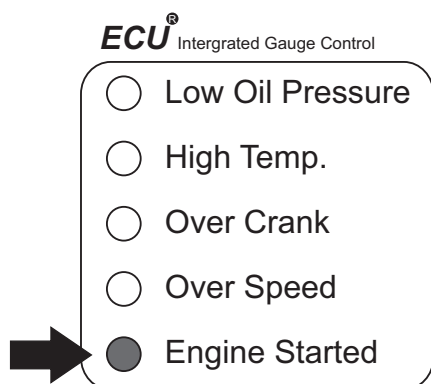

Figure 45. ECU Controller (Engine Started LED)
- Verify that the Engine Started status LED on the ECU controller is **ON** (Figure 45).